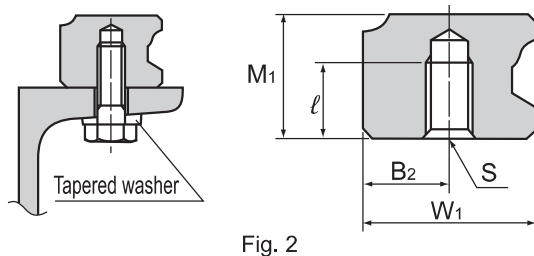

Fig. 2
(1) As shown in Fig. 2, a tapered washer is also available that allows GSR to be mounted on a steel flange.
(2) For model number coding, see **A1-290**.